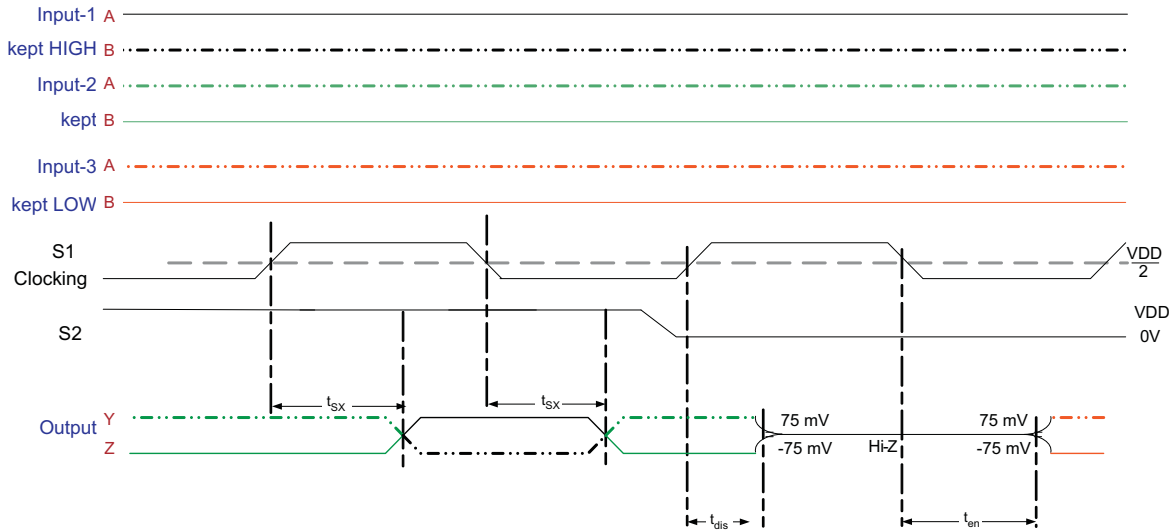

Figure 6. TMDs Outputs Control Timing Definitions
A. Channels 2, 3, 4, $V_{CC} = AV_{CC} = 3.3\text{ V}$, $T_A = 25^\circ\text{C}$, $R_{VSADJ} = 4.02\text{ k}\Omega$, See Figure 6
A. Channel 1, $V_{CC} = AV_{CC} = 3.3\text{ V}$, $T_A = 25^\circ\text{C}$, $R_{VSADJ} = 4.02\text{ k}\Omega$, See Figure 6
- A. 1080p 10-Bit, $V_{CC} = AV_{CC} = 3.3$ V, $T_A = 25^\circ\text{C}$, $R_{VSADJ} = 4.02$ k Ω , See Figure 6, Clock Channel = 185.6 MHz, Data Channel = 1.856 Gbps
- A. 1080p 12-Bit, $V_{CC} = AV_{CC} = 3.3$ V, $T_A = 25^\circ\text{C}$, $R_{VSADJ} = 4.02$ k Ω , See Figure 6, Clock Channel = 222.8 MHz, Data Channel = 2.228 Gbps